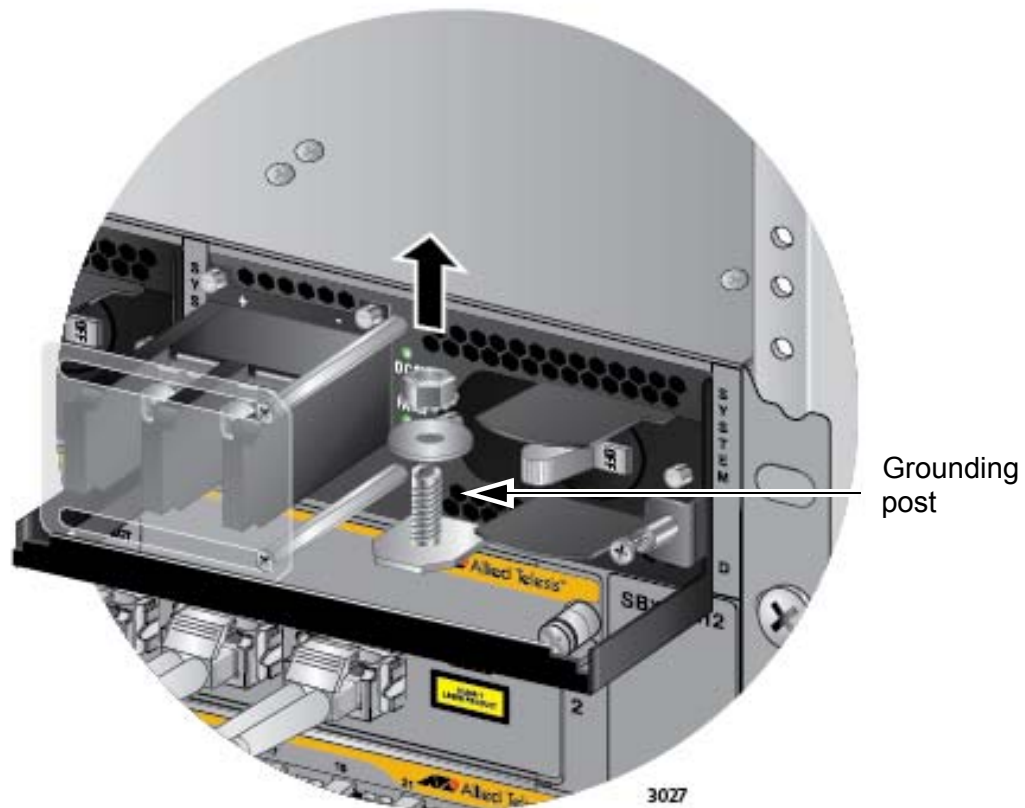

Figure 103. Removing the Nut and Washer from the Grounding Post
3. Use an 8 mm wrench to remove the grounding post nut and washer, shown in Figure 103, from the power supply.
2. Use an 8 mm wrench to remove the grounding post nut and washer, shown in Figure 103 on page 152, from the grounding post on the power supply.